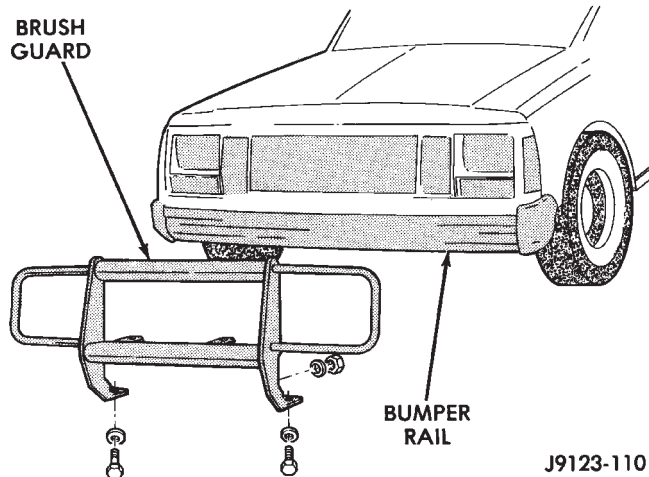

Fig. 1 Brush Guard Removal/Installation
(1) Remove the bolts and washers that attach the brush guard (Fig. 1) to the side sills.